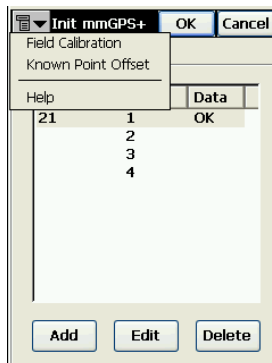

Figure A-8. Open Known Point Offset
1. On the *Init mmGPS+* screen, tap the **menu bitmap** in the upper left corner of the screen and tap **Known Point Offset** (Figure A-8).